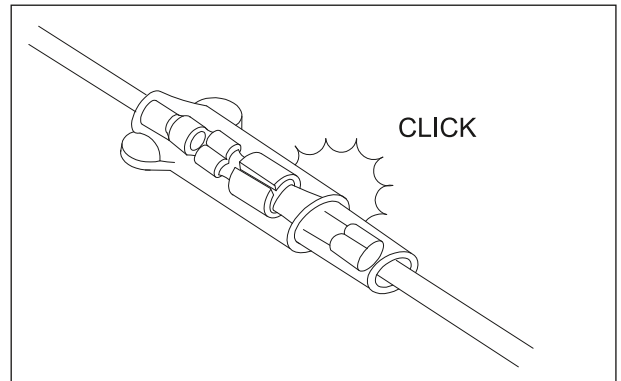

Fig. 6.3
- When connecting a connector, be sure to push it in until a click is felt. (Fig. 6.3)